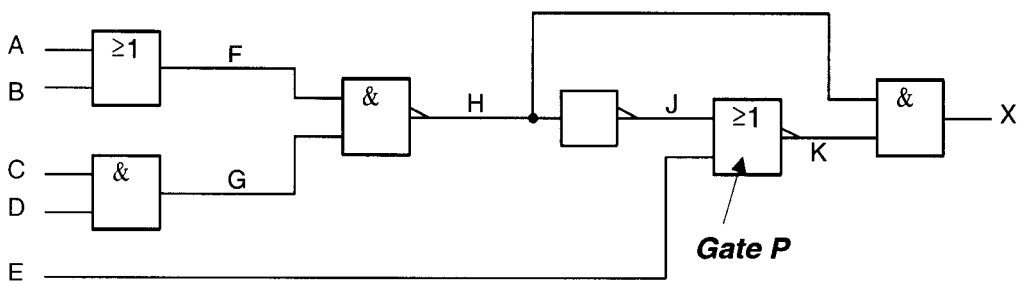

Figure 6.2
c) By applying the principle of path sensitisation to the circuit shown in Figure 6.2, generate the test vectors for detecting: i) a *stuck-at-0* fault at node *F*, ii) a *stuck-at-1* fault at node *G*.